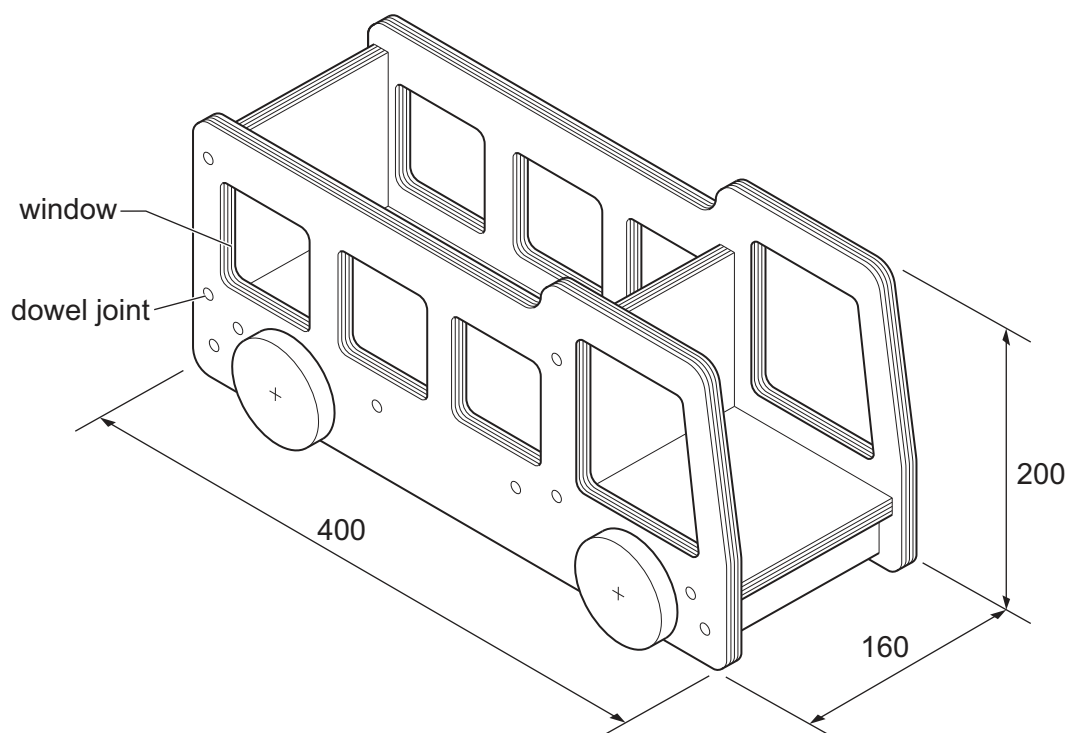

Fig. 11.1
- 11 Fig. 11.1 shows a child's toy bus made mainly from 12 mm thick plywood.